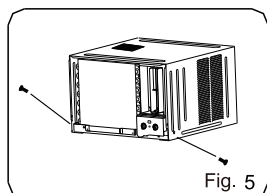

Fig. 5
- Remove the screws fix the chassis-fixing board and cabinet. some Models have two more screws on the back of the cabinet. (see Fig.5)
- Fix the chassis and cabinet. (see Fig.5)